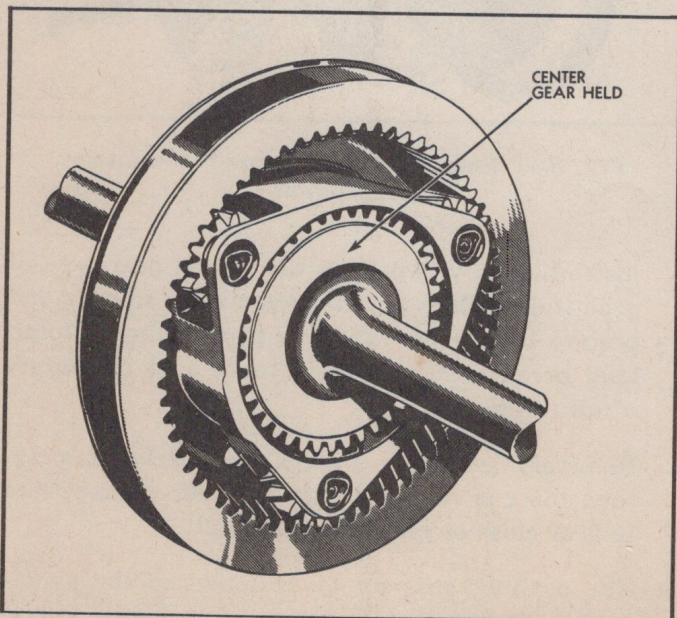

Fig. 7—Reduction—Center Gear Held
- b. The same result can be obtained by holding the center gear stationary and applying power to the internal gear (Fig. 7). In this case, rotation of the internal gear causes the planet pinion gears to rotate on their respective pins and at the same time "walk around" the center gear, thus rotating the planet carrier at a speed less than that of the internal gear, and making the gear train function as a power-increasing, speed-reducing unit.